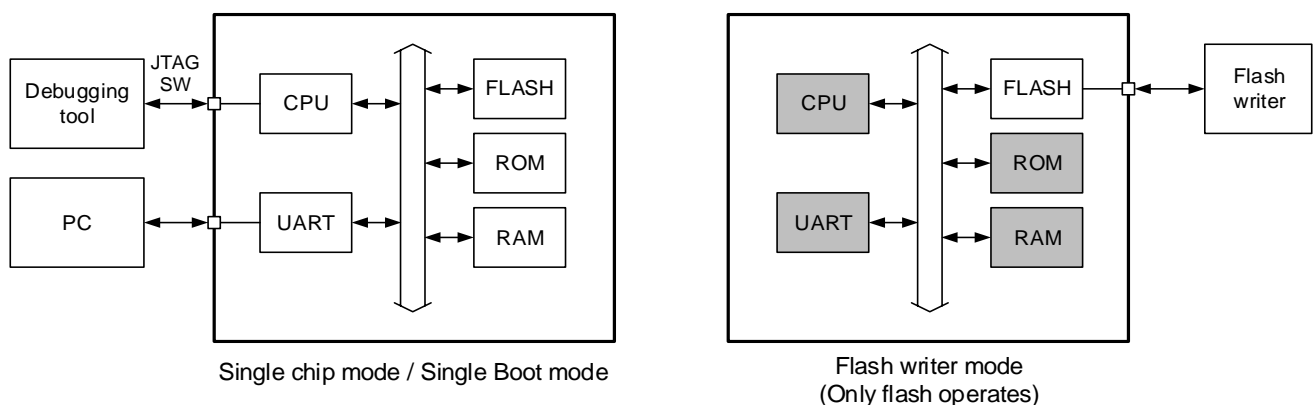

Figure 5.1 Measures for security risk
TMPM4M Group(1) contains two measures for security risk to prevent unauthorized access. Table 5.24, Table 5.25 and Figure 5.1 show the assumed access paths and protection targets for each operation mode.